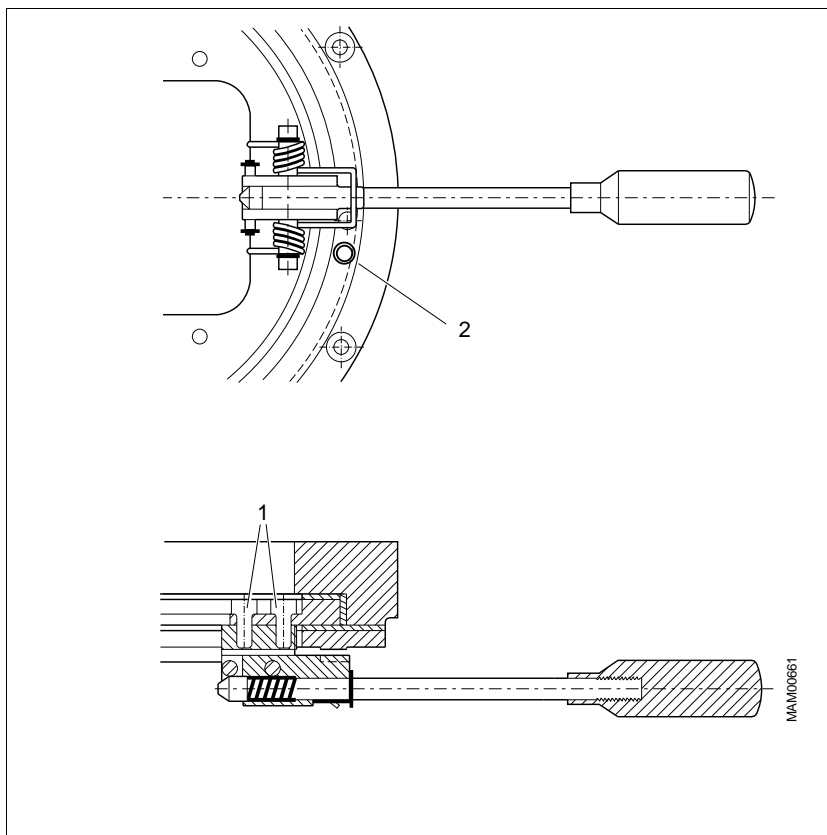

Fig. 4 Locking lever, view from underneath and a section
9. Loosen the rotation stop screw (2/Fig. 4). Then turn the object table arm further clockwise to make the two screws accessible.
10. Loosen the screws for the holder (1/ Fig. 4) (this screws are later to be replaced by new screws).